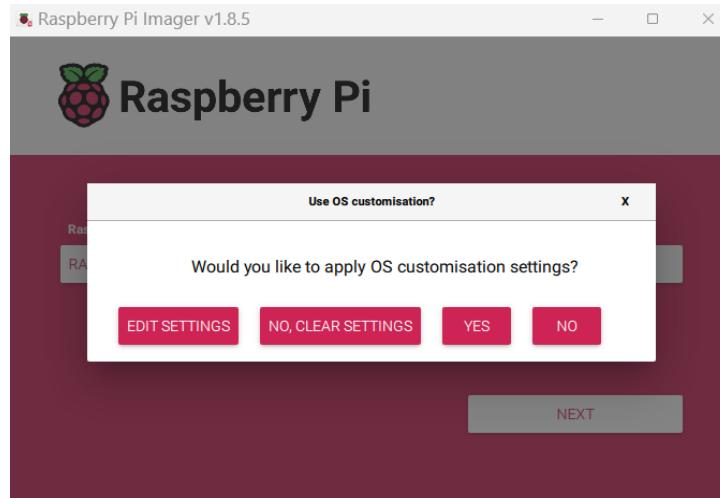

Figure 30. Select Yes for custom settings.
3. During the imaging setup, you will be asked to apply customization settings. Select Yes (or Edit settings if this is not the first time using the software). (Figure 30)